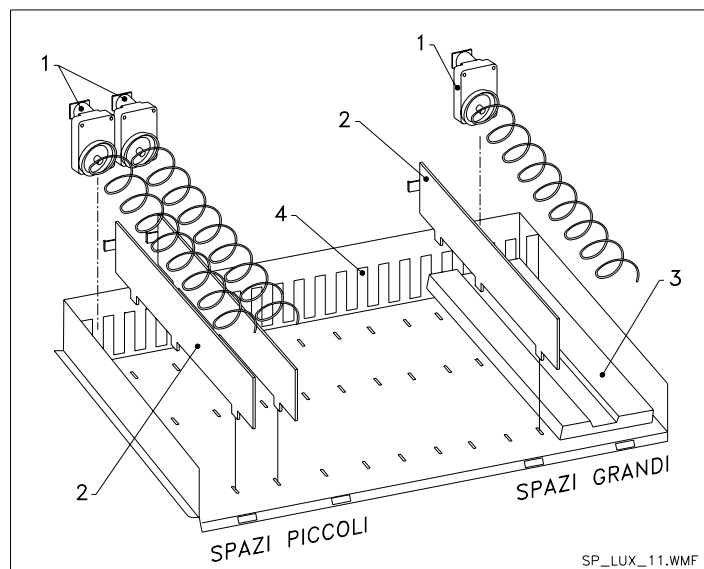

FIG. 10
9.6 PROCEDURE FOR CHANGING THE TRAYS (FIG. 10) from a large space to two little spaces.
9.7 PROCEDURE FOR CHANGING THE TRAYS (FIG. 10) from two little spaces to one large space.